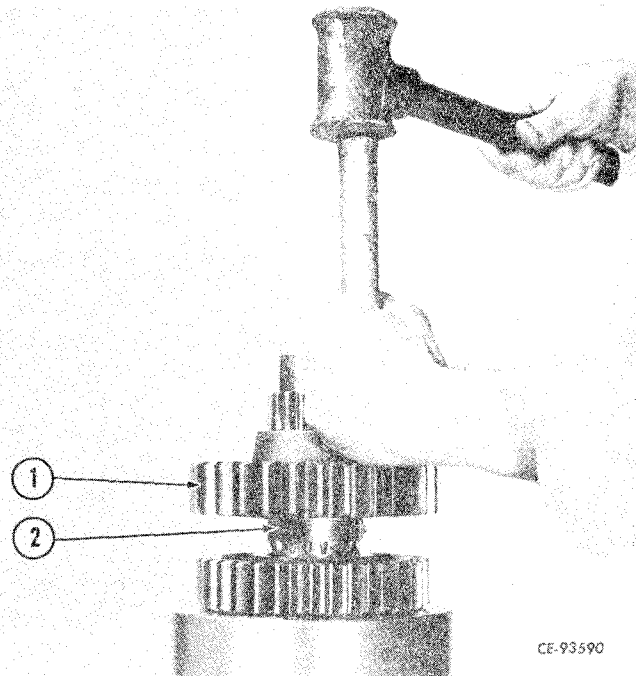

Figure 4-141
Drive 2nd intermediate gear (1, Fig. 4-141) down until washer just catches lock ring. Remove hose clamp (2) and drive gear down until it bottoms over lock ring.